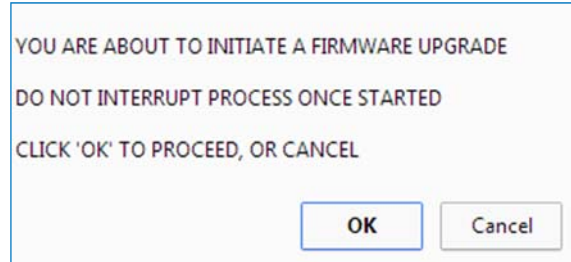

Figure 4-6: Proceed With Upgrade Prompt
5. Click the “Upload” button. A warning message will appear; click the “OK” button (See **Figure 4-6**).